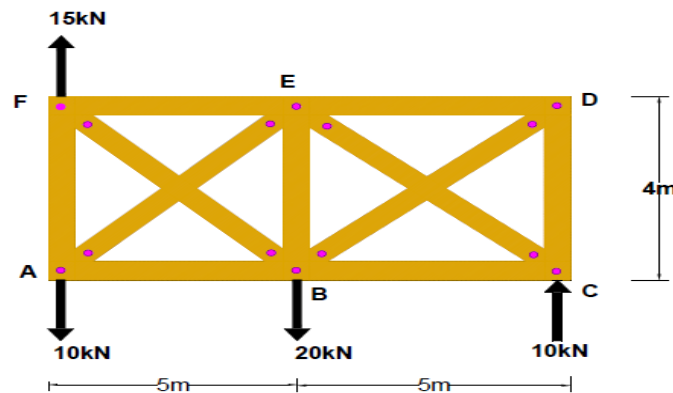

Fig 7
- 15 (a) Analyze (approximately) the forces in the members of the truss shown in Fig 7. The diagonals are to be designed to support both tensile and compressive forces, and therefore each is assumed to carry half the panel shear. The support reactions have been computed.